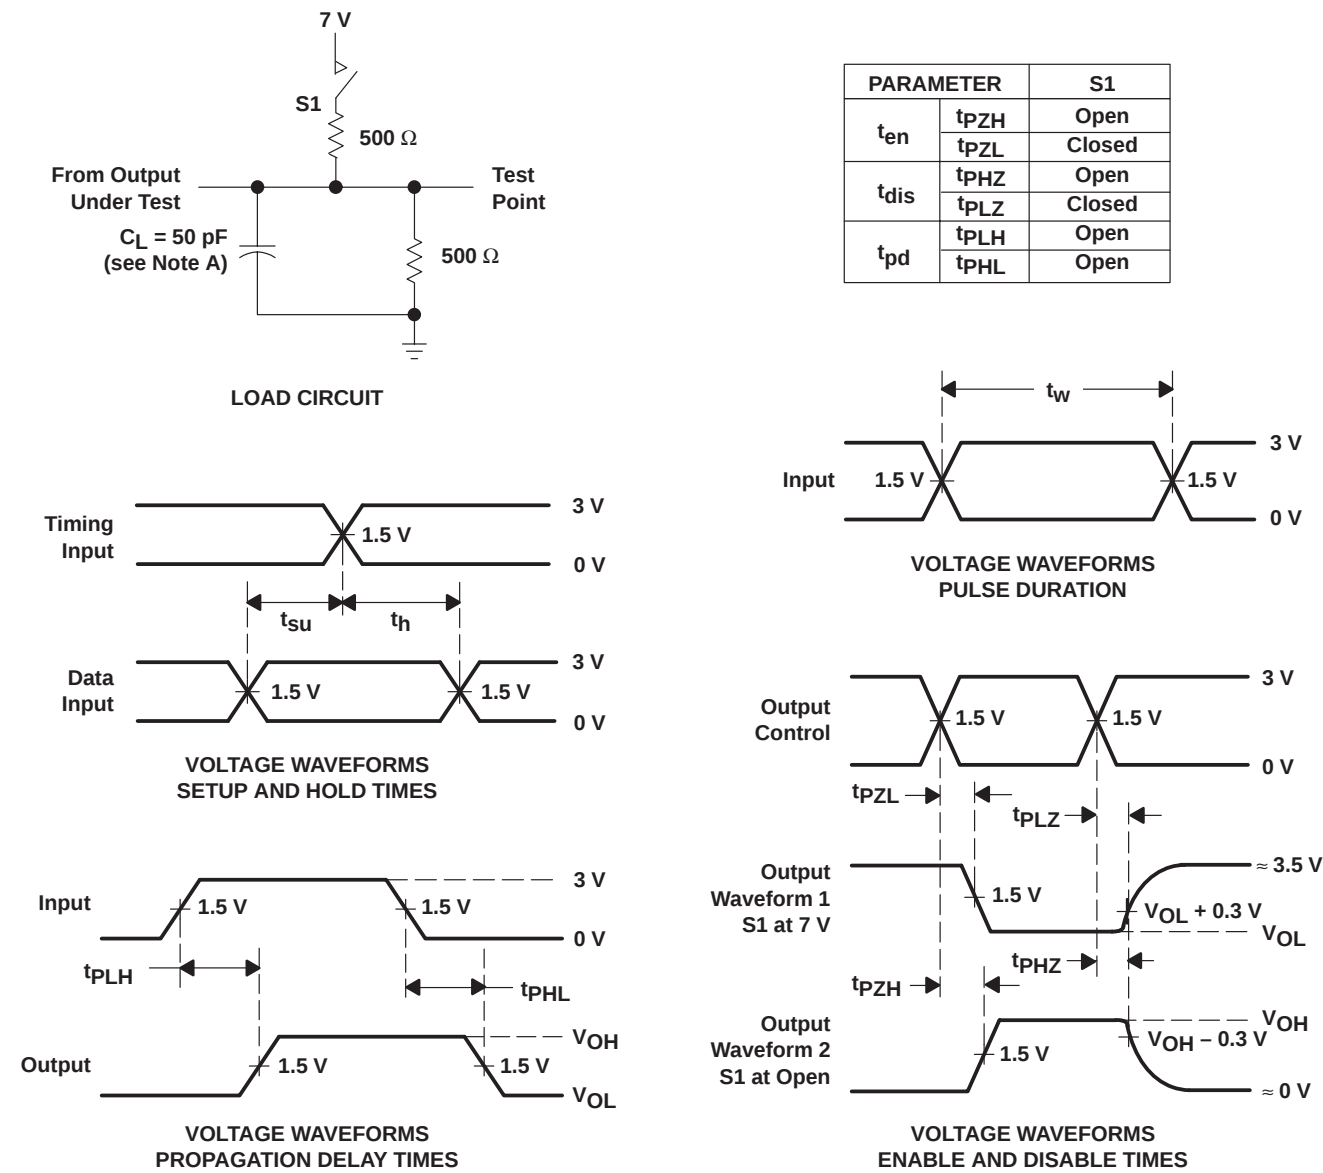

Figure 3. Load Circuit and Voltage Waveforms
**switching characteristics over recommended ranges of supply voltage and operating free-air temperature, CL = 50 pF (unless otherwise noted) (see Figure 3)**